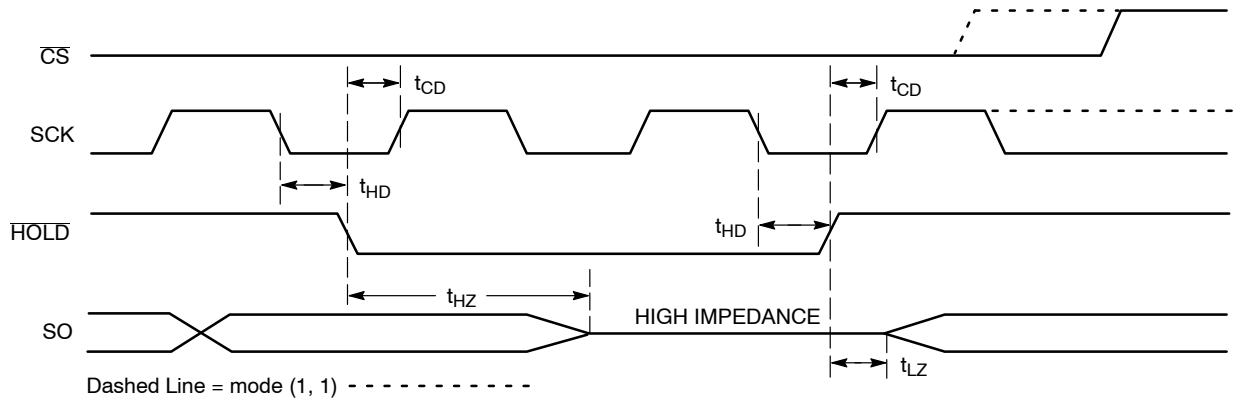

Figure 11. $\overline{\text{HOLD}}$ Timing
The $\overline{\text{HOLD}}$ input can be used to pause communication between host and NV25320WF. To pause, $\overline{\text{HOLD}}$ must be taken low while SCK is low (Figure 11). During the hold condition the device must remain selected ($\overline{\text{CS}}$ low). During the pause, the data output pin (SO) is tri-stated (high impedance) and SI transitions are ignored. To resume communication, $\overline{\text{HOLD}}$ must be taken high while SCK is low.